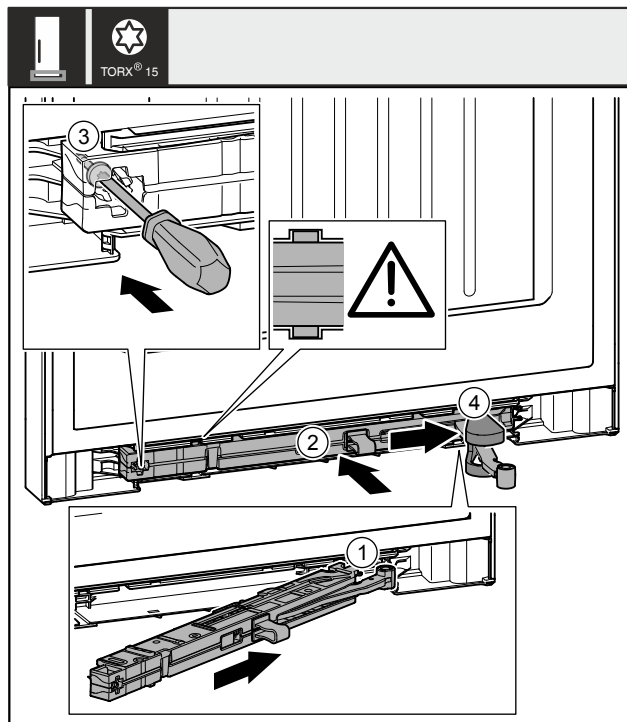

Fig. 53
- ▶ On the swap bearing block side, slide the closing damper unit Fig. 53 (1) into the recess at an angle up to the stop.
- ▶ Push the closing damper unit Fig. 53 (2) into the recess completely.
- ▶ Use a screwdriver to tighten the screw Fig. 53 (3).
- ▶ Push the cover Fig. 53 (4) over the joint.